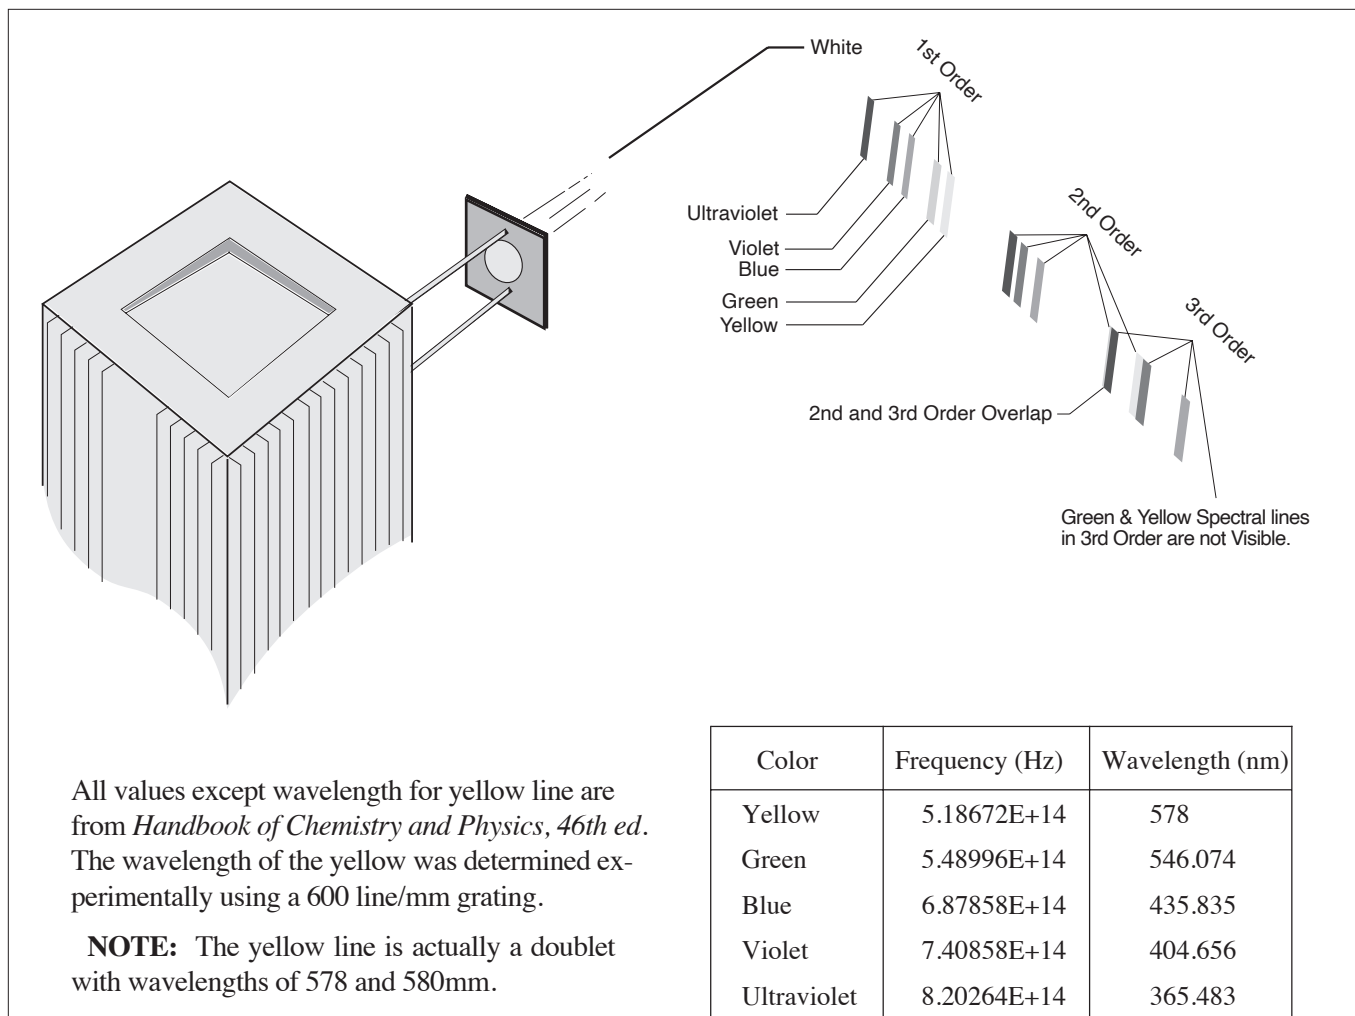

**Figure 9. h/e Light Shield**
10. Set the h/e Apparatus directly in front of the Mercury Vapor Light Source. By sliding the Lens/Grating assembly back and forth on its support rods, focus the light onto the white reflective mask of the h/e Apparatus (Figure 9).